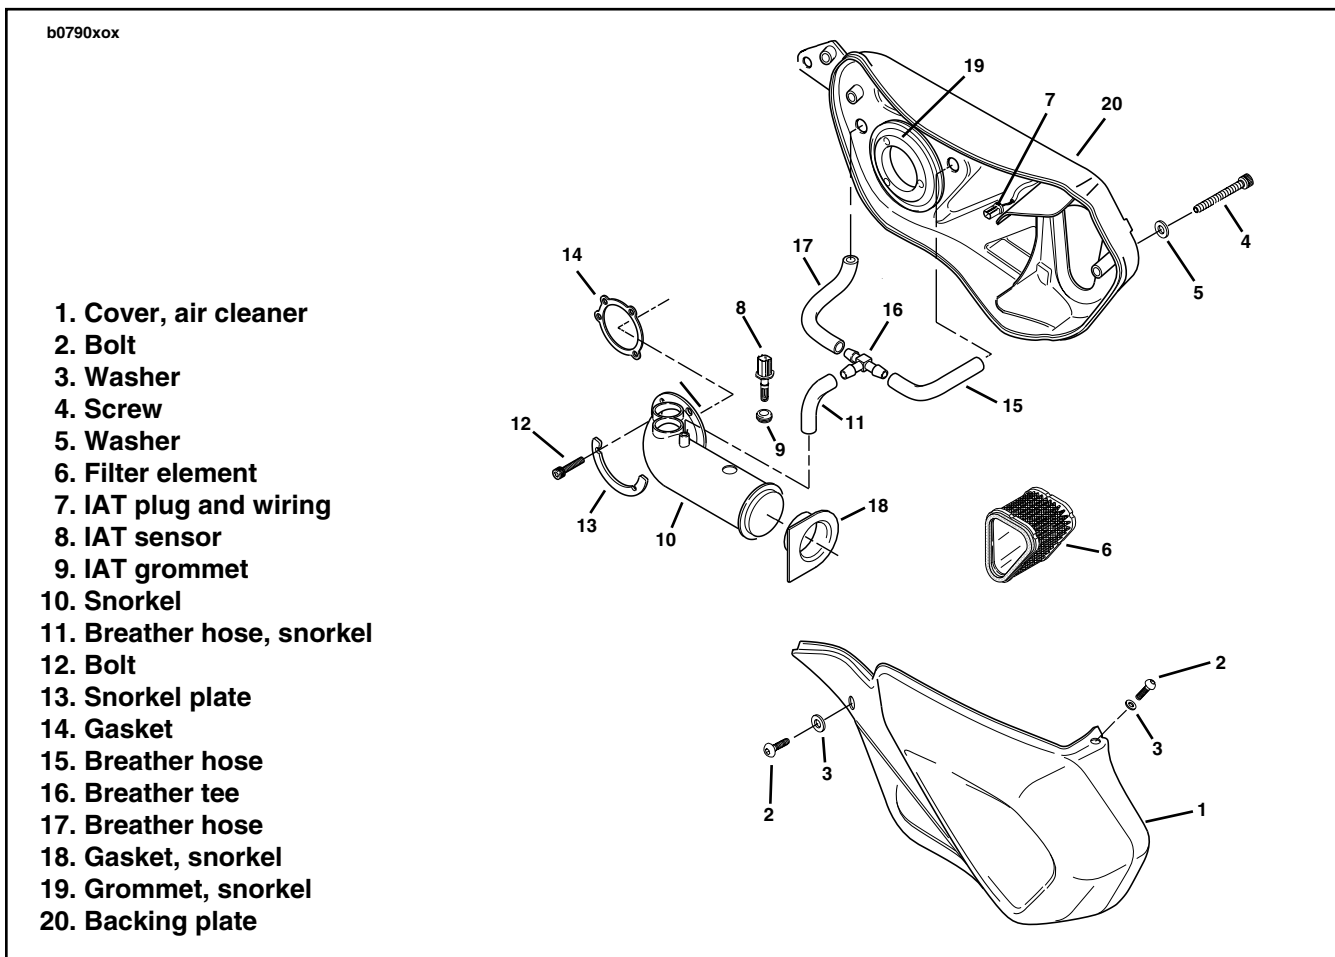
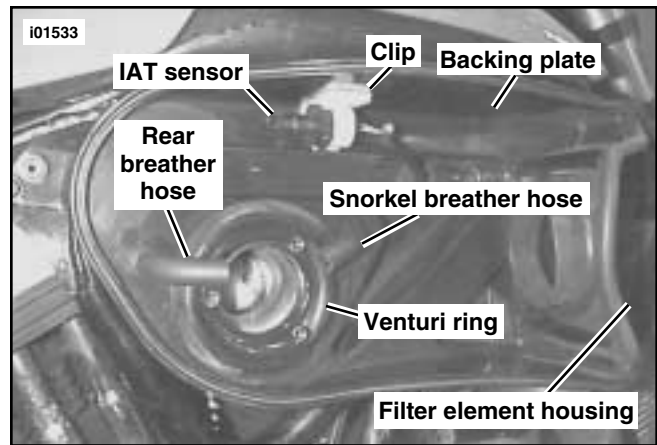

Figure 1. X1 Stock Air Cleaner
Figure 2. X1 Race Air Cleaner Installation
2. See Figure 1. Remove two bolts (2) and washers (3) from front and one screw (4) and washer (5) from back of air cleaner cover (1).
3. Remove air cleaner cover (1) and air filter (6).
4. Remove IAT sensor (8) from top of snorkel (10).
5. Remove hose (11) from snorkel (10).
6. Remove three bolts (12) from snorkel plate (13). Remove snorkel plate (13), snorkel (10) and gasket (14) from backplate (20).
1. See Figure 2. Install the Venturi ring. Carefully place Venturi on snorkel grommet (Item 19, Figure 1) and install bolts (Item 12, Figure 1) removed earlier using LOCTITE THREADLOCKER 243 (blue). Torque screws to 7-9 ft-lbs (9.5-12.2 Nm).
2. See Figure 1. Remove snorkel breather hose (11), tee (16) and rear breather hose (17).
3. See Figure 2. Install snorkel breather hose, removed in Step 2, on rear breather bolt. Position as shown.
- b. Remove paper backing from clip and stick clip, with sensor, to top of backing plate as shown in Figure 2.
7. See Figure 1. Reinstall air cleaner cover.
- a. Position air cleaner cover (1) over air cleaner backing plate (20), making sure air filter element is correctly positioned.
- b. Install long screw (4) and washer (5) first.
- c. Align air cleaner cover (1) and secure with two bolts (2) and washers (3) using LOCTITE THREADLOCKER 243 (blue). Torque to 27-29 in-lbs (3.1-3.3 Nm).